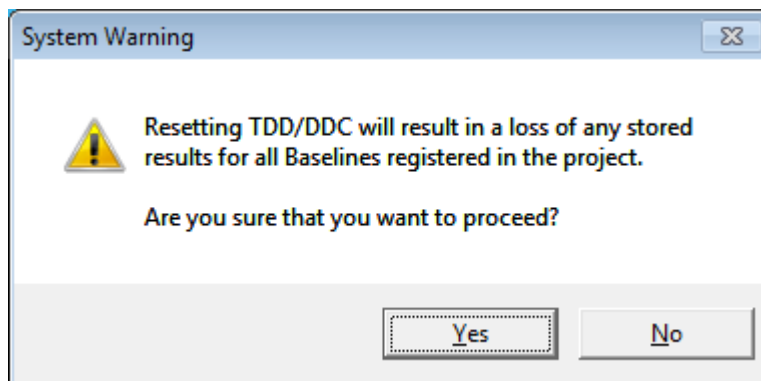

Figure 28: Reset the TDD/DDC status confirmation
- **Engine Status:** Select “Keep TDD/DDC status” to keep the filter status. Select “Reset the TDD/DDC status” to reset the filter status. If you select “Reset the TDD/DDC status” the confirmation stating “Resetting TDD/DDC will result in a loss of any stored results for all Baselines registered in the project” will appear (Figure 28).